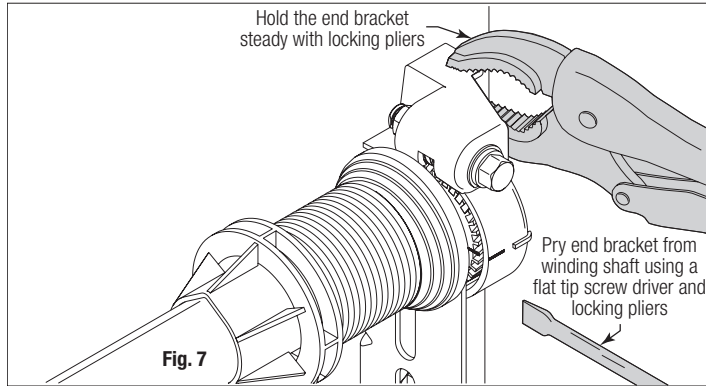

Fig. 7
**STEP 5:** While hold the end bracket with the locking pliers, pry the end bracket from the winding shaft using a flat tip screw driver (Fig 7).